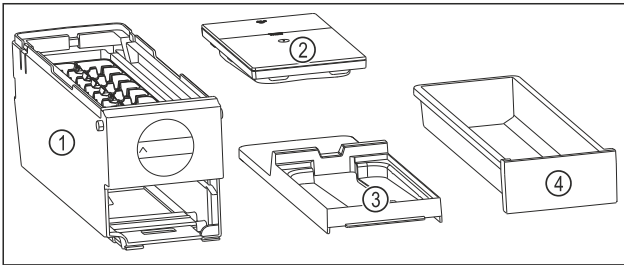

Fig. 165 Components of the EasyTwist-Ice
- EasyTwist-Ice is disassembled in four parts. (see Fig. 165)
- Only disassemble the EasyTwist-Ice into the illustrated components. (see Fig. 165)
- Clean the EasyTwist-Ice body Fig. 165 (1) as a complete unit.